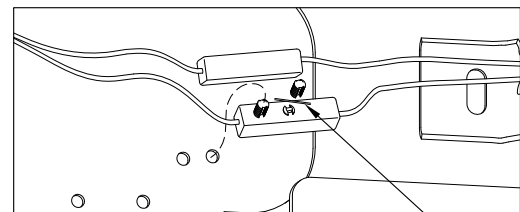

FIGURE C7: View looking at the inside of the Driver Side Frame.
4. **Move wire plug.** On some truck models a small wire plug will have to be moved in order to install the U-Bolt. Pull the wire bracket from the frame and cut one of the plastic ratchet fasteners as shown in figure C7. Once the U-bolt is installed plug the remaining plastic ratchet fastener into the hole where the cut ratchet fastener was in the original installation.